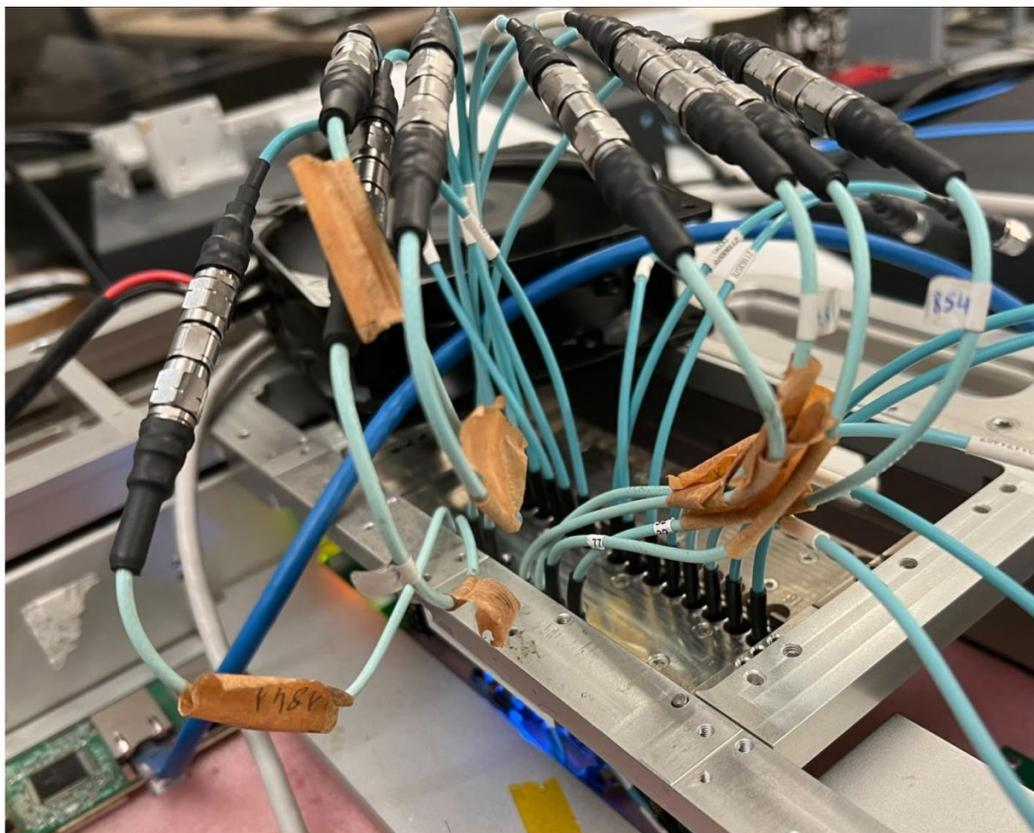
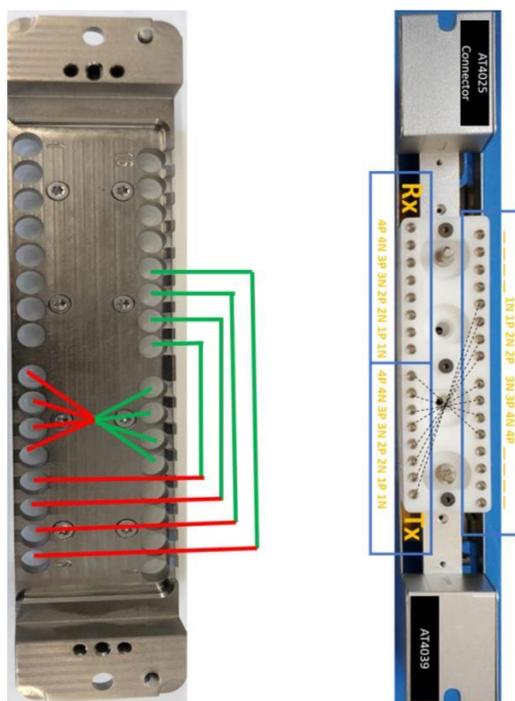

Figure 16: Example on Eye Diagram Configuration – AT4039E + AT4025
Figure 17: Example on Eye Diagram Configuration – AT4039E + AT4025
1. Figure 16 and Figure 17 shows the configuration of an AT4039E (or AT4039D) signal (Tx) transmitted into the AT4025 channels (Rx) for eye diagram observation. Both ATs are in the same cassette.